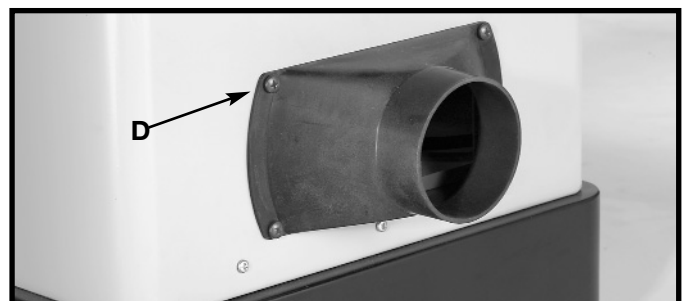

Fig. 29
Attach dust port (D) Fig. 29 using four self-tapping screws.